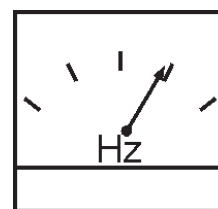

Figure 29. Frequency Meter (Hz)
- The generator's frequency meter (Figure 29) should be displaying the 60 cycle output frequency in **HERTZ**.